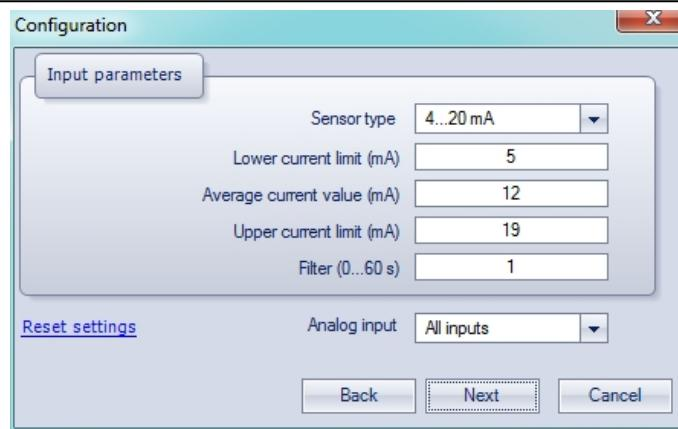

Fig. F.3
4. Set the three curve points for calibration, the filter time constant and select the channel (Fig. F.3). Increasing the filter time constant increases the time of calibration but provides a more precise calibration coefficients. Each channel is calibrated individually. If ‘All channels’ is selected, all four channels will be calibrated, so it is necessary to select the appropriate curve points for all channels at once.